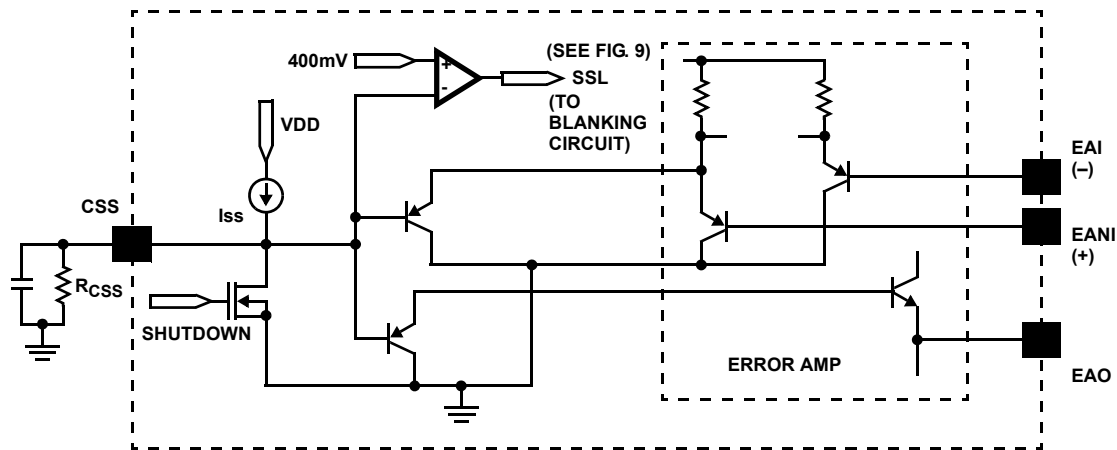

FIGURE 5. SIMPLIFIED CLAMP/SOFT-START
- Both EANI and EAO are clamped by the voltage ( $V_{clamp}$ ) set at the CSS pin, as shown in Figure 5. Note that the diodes in the functional block diagram represent the clamp function of the CSS in a simplified way.
- The clamping voltage determines the cycle-by-cycle peak current limiting of the power supply. It should be set above the EANI and EAO voltages and can be programmed by an external resistor, as shown in Figure 5 using Equation 3.
eliminates response degrading delays which would be caused if filtering of the current feedback was incorporated. The current ramp is blanked out during the resonant delay period because no switching occurs in the lower FETs. The leading edge blanking function will not be activated until the soft-start (CSS) reaches over 400mV, as illustrated in Figures 5 and 9. The leading edge blanking (LEB) function can be disabled by tying the R\_LEB pin to VDD, i.e., LEB = 1. Never leave the pin floating.